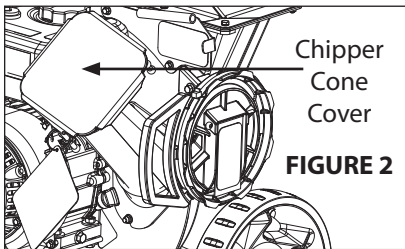

FIGURE 2
7. Secure the cone cover over the cone opening. **FIGURE 2**